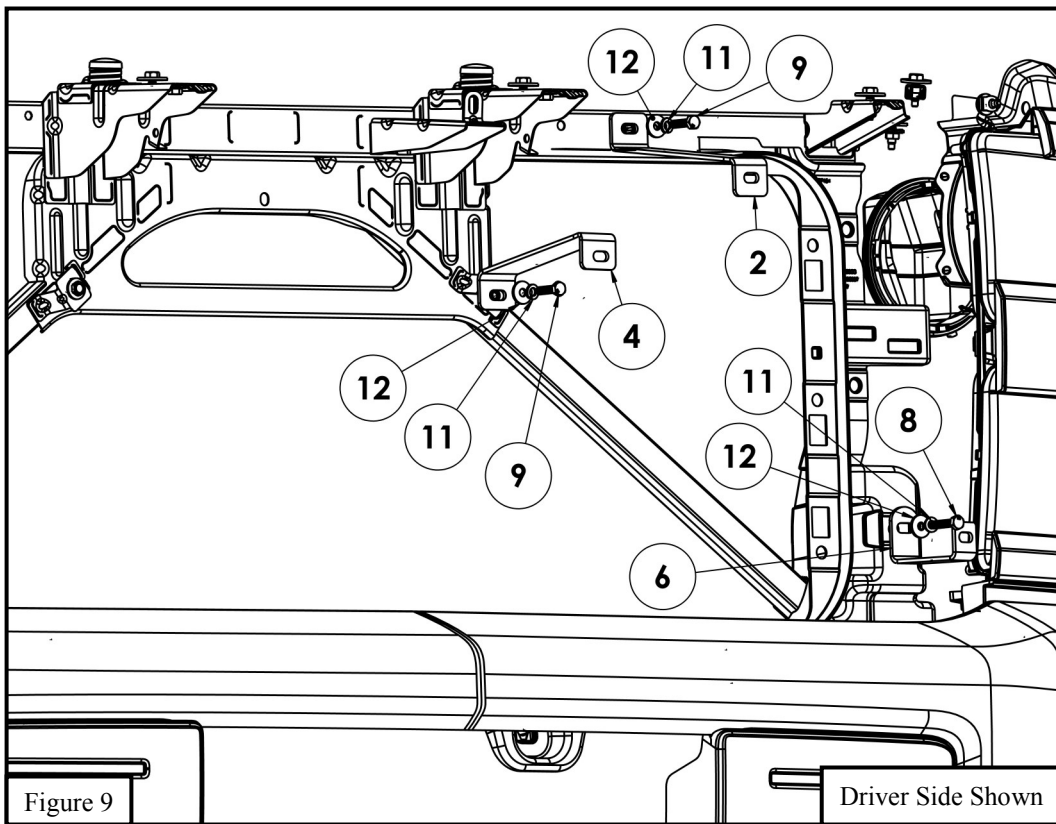

Figure 9
8. Locate (2) Upper Bracket (Items 2 & 3), and (2) Center Bracket (Items 4 & 5). Loosely secure the brackets onto the vehicle using the supplied M6 hardware. Refer to **Figure 9**.
9. Locate (2) Lower Bracket (Items 6 & 7) . Loosely secure the brackets onto the vehicle using the supplied M6 hardware utilizing the Long M6 Hex Head Cap Screw. Refer to **Figure 9**.